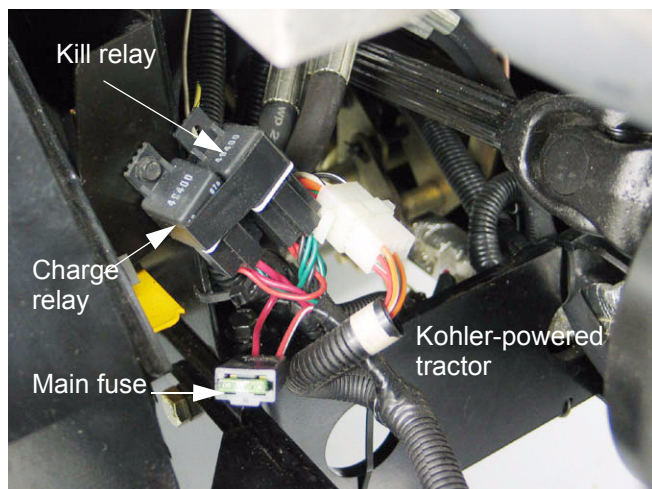

Figure 2.6
2.6. Kohler powered tractors use a similar engine kill relay arrangement. See Figure 2.6.